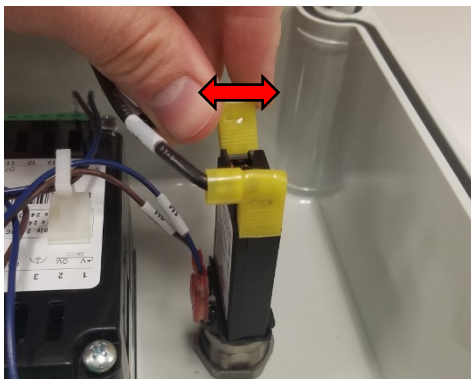

Figure 82. Disconnect Overload Connections
5. Be careful when removing the black wires on the overload. If possible, hold the overload itself and rock the connector back and forth to remove the black wires. **Refer to Figure 82.**